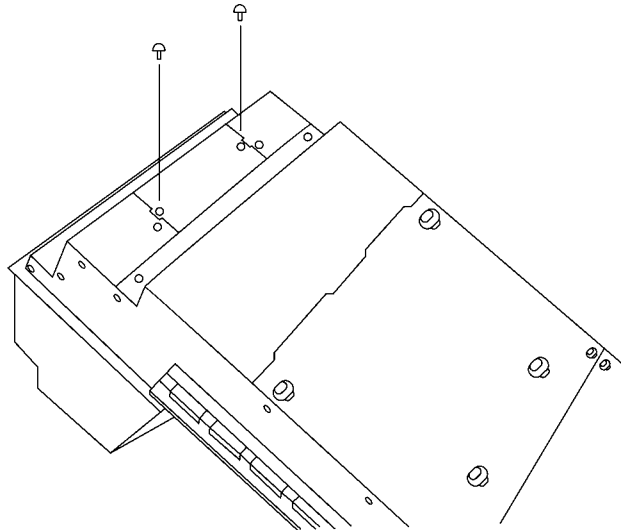

Figure 6.2-1
- (1) Turn over the 9950 scanner/scale and disconnect external cables.
- (2) Remove the two screws that secure the laser unit cover plate. (See Figure 6.2-1.)